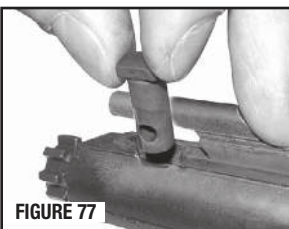

FIGURE 77
- Lift the cam pin from the bolt carrier (FIGURE 77).